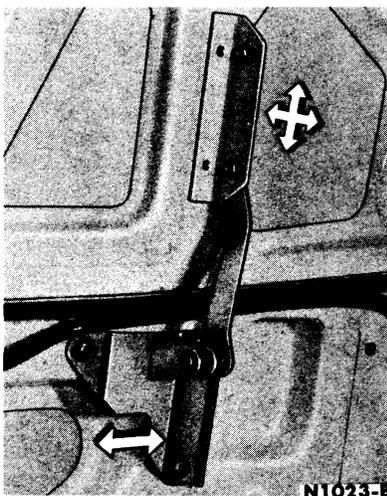

FIG. 27—Deck Lid Finish Panel Adjustments
1. Slightly loosen the screws that attach the finish panel hinge to the deck lid (Fig. 27).
1. Slightly loosen the hinge arm retaining bolts at the finish panel (Fig. 27).